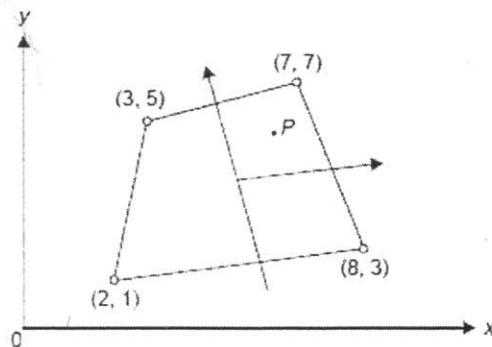

Fig. Q5 (b)
b) Determine the Cartesian coordinate of the point P ($\xi = 0.5, \eta = 0.6$) Refer Fig. Q5 (b).